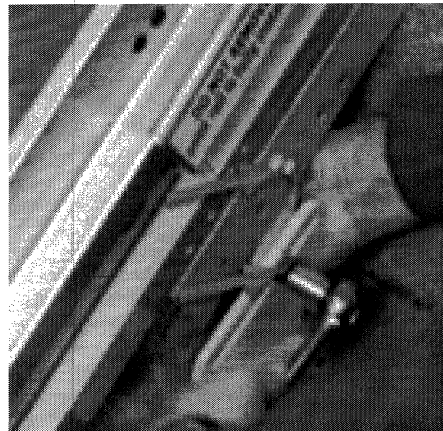

Fig. 11
10. Tighten bolt on primary bracket and on special folding rail bracket [Fig. 11].